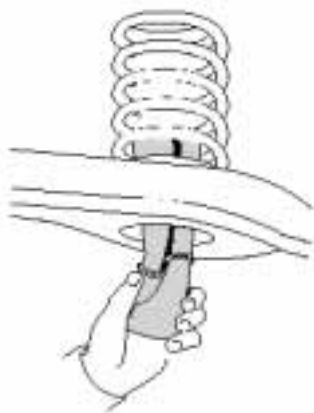

Figure 1
2. Remove plastic cap from barbed stem on end of cylinder. Exhaust the air from the cylinder by rolling it up toward barbed stem. Replace cap on stem to hold flat shape. Form cylinder into a "hot dog bun" shape. If necessary, use a string, tape, or wire to retain shape (Figure 1).
3. Insert formed air cylinder into lower coil spring seat opening with stem at the bottom (Figure 1).
If the vehicle's headlights are shining into the trees or the vehicle is leaning to one side, then it is not level (fig. 1). Raise the air pressure to correct either of these problems and level the vehicle.